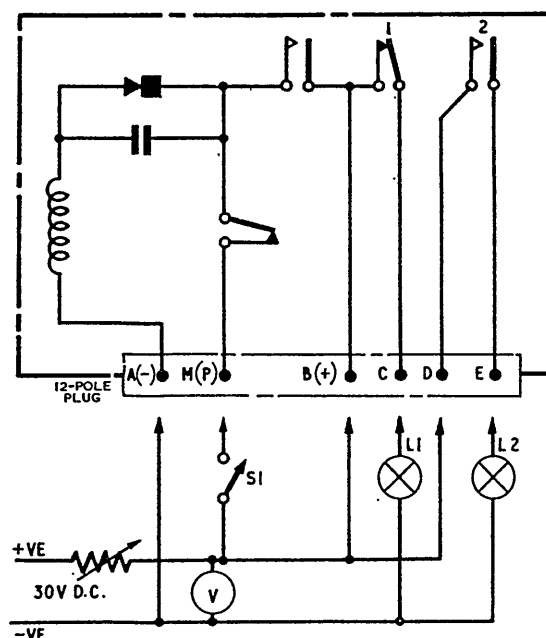

Fig. 1. Switch, Type D8165, circuit diagram and test circuit
1. This time delay switch has two pairs of circuit contacts, the circuit diagram (fig. 1) shows the switch internal wiring and the associated test circuit. The total motor run and circuit contact timing is detailed in para. 3.